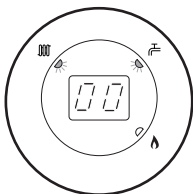

Fig. 73
7. The display will show '00', indicating maximum rate, then revert to 'P' alternating with the current boiler temperature (Figs. 73, 74 & 75).